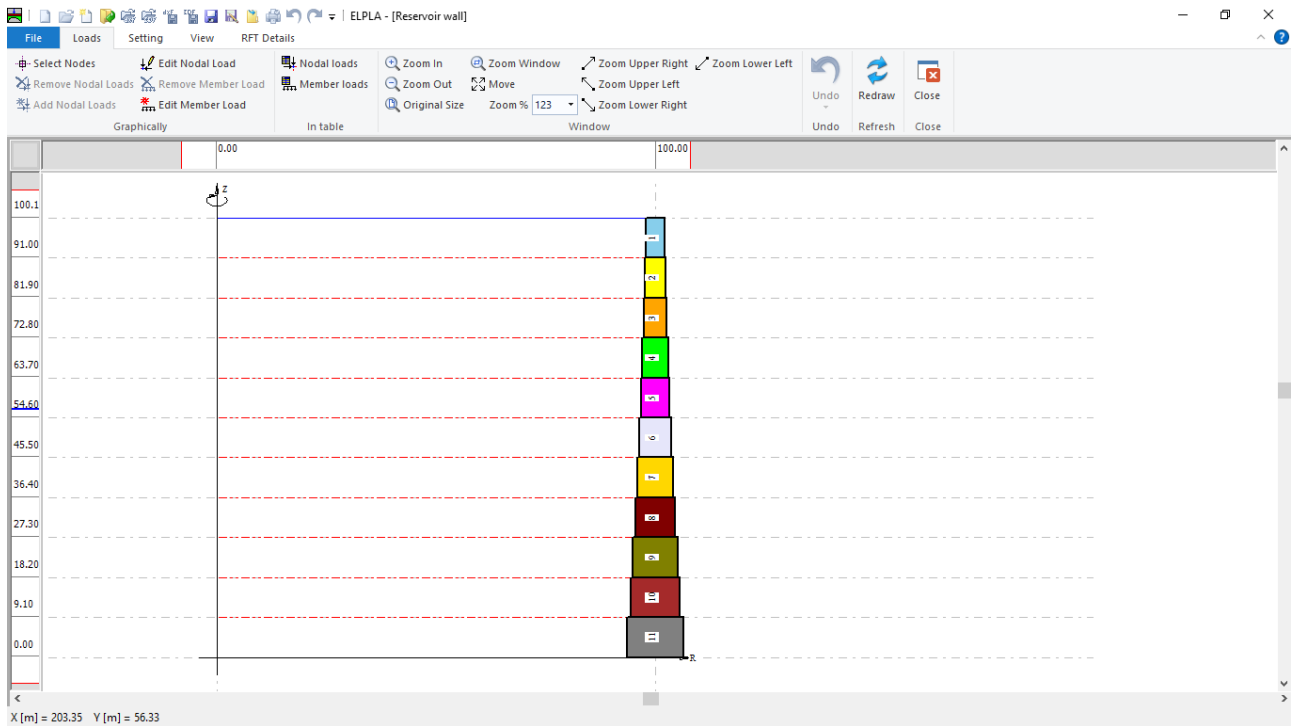

Figure 4.20 "Loads" Window
To define the loads, choose "Loads" command from "Data" Tab. The following window in Figure 4.20 appears. In *ELPLA*, entering loads may be carried out either numerically (in a table) or graphically using the commands of "Loads" Tab in Figure 4.20. In this example, there is not applied load, as the vertical load has been already defined by the unit weight of the reservoir wall material, while the hydrostatic pressure on the reservoir wall is defined by the unit weight of water.
- Choose "Save" command from "File" menu in Figure 4.20 to save the load data
- Choose "Close" command from "File" menu in Figure 4.20 to close the "Loads" window and return to *ELPLA* main window